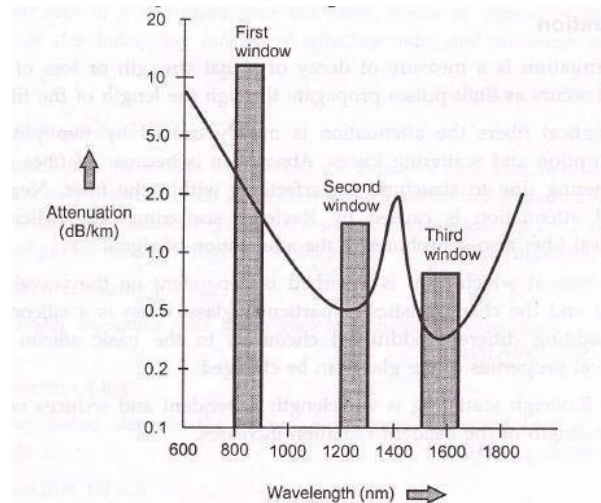

Fig. 2.1.1 Fiber attenuation as a function of wavelength
- Attenuation is also a function of wavelength. Optical fiber wavelength as a function of wavelength is shown in Fig. 2.1.1.